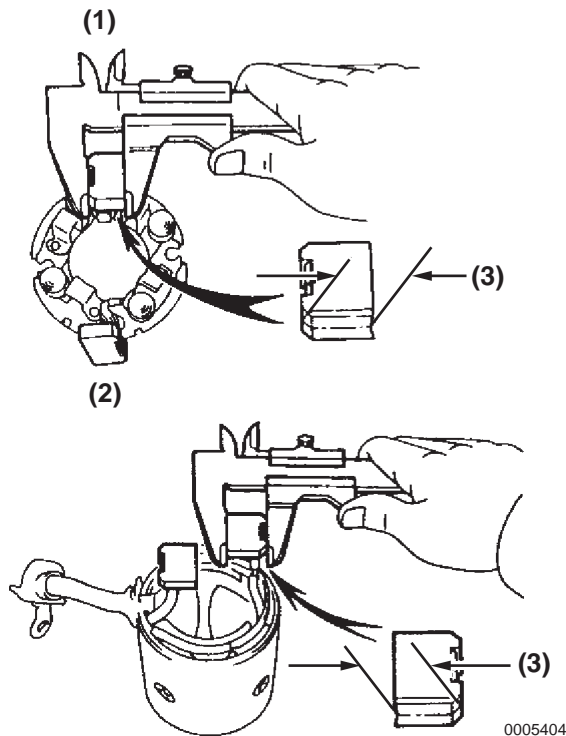

Figure 10-17
1. Measure the brush length using calipers (**Figure 10-17**). If the measured value is less than the specified minimum, replace the brush holder and field coil frame.